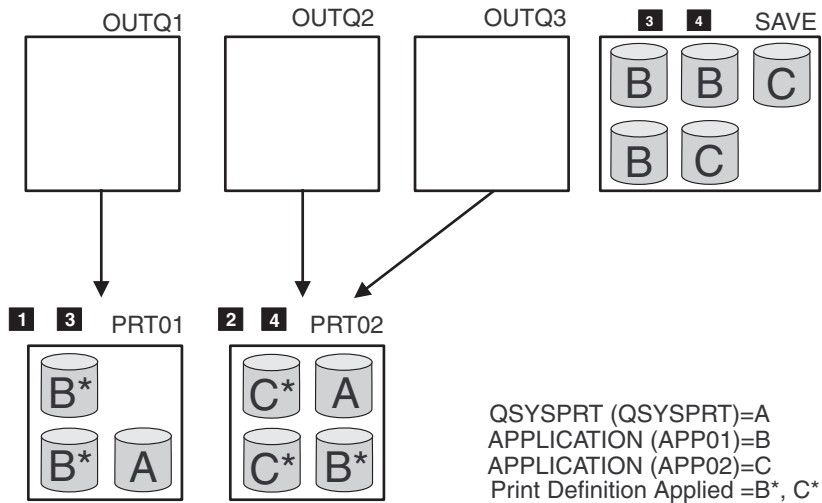

Figure 104. APU Monitor Example After Processing
Figure 104 on page 182 shows the two QSYSPRT spooled files (A) were sent to print without being saved, that all the original application spooled files are in output queue **SAVE**, and that the new AFPDS spooled files (output from APU processing) are placed in the output queues PRT01 and PRT02, depending on where the original was.